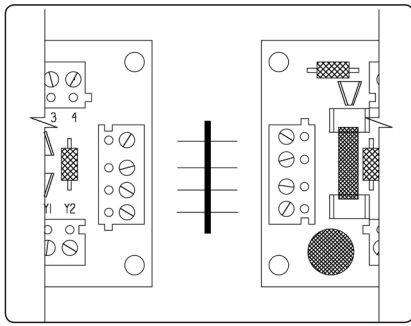

Figure 1: Module Jumper
2. Fasten the jumper within the input and output blocks of the corresponding modules (see **Figure 1** on page 2).